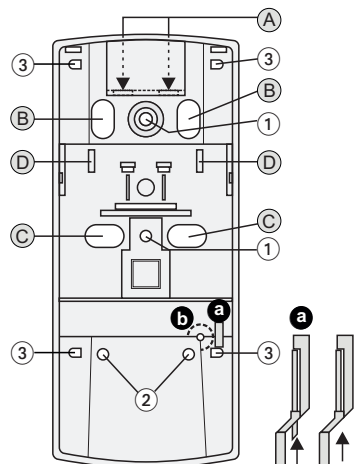
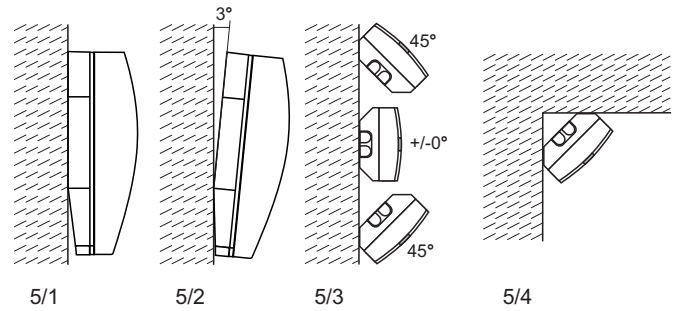

Fig. 4
Fig. 5
0° (Fig. 5/1)
| • 0° Vertical | see Fig. 5/1 | Fig. 4-① |
| • Vertical at a 3° downward angle | see Fig. 5/2 | Fig. 4-② |
| • Horizontal at a 45° angle to the left or right | see Fig. 5/3 | Fig. 4-③ |
| • Corner mounting | see Fig. 5/4 | Fig. 4-④ |
Cabling, strain relief (See Fig. 4)
Backtamper (see Fig. 4)
The backtamper can be used if installed as illustrated in Fig. 5/1, 5/2, 5/3a, 5/3b and 5/4.
- Protective cover for back-tamper (on the rear). Remove, when mounting as per Fig. 5/3a or 5/4